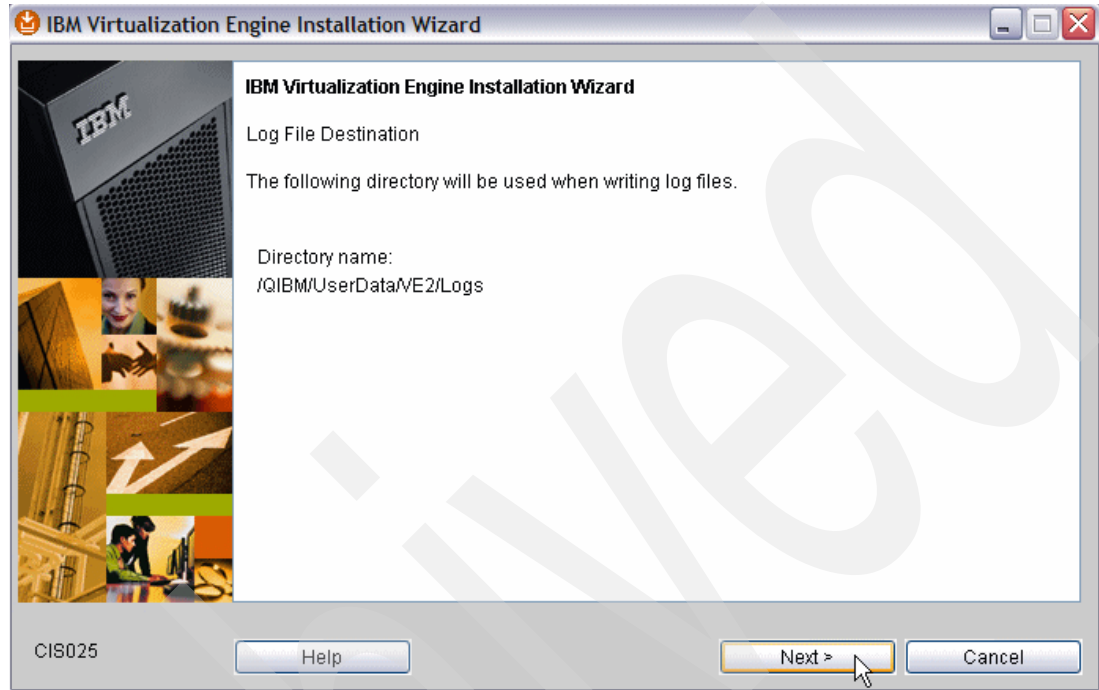

Figure 5-10 Log File Destination window
6. On the Log File Destination window (Figure 5-10), the default path for the log-file destination is displayed. The default path is /QIBM/UserData/VE2/Logs. You cannot edit the destination directory for the log files. Notice this path because in this path the install logs appear, and if the install fails for some reason, these log files should be checked. Just click **Next**.